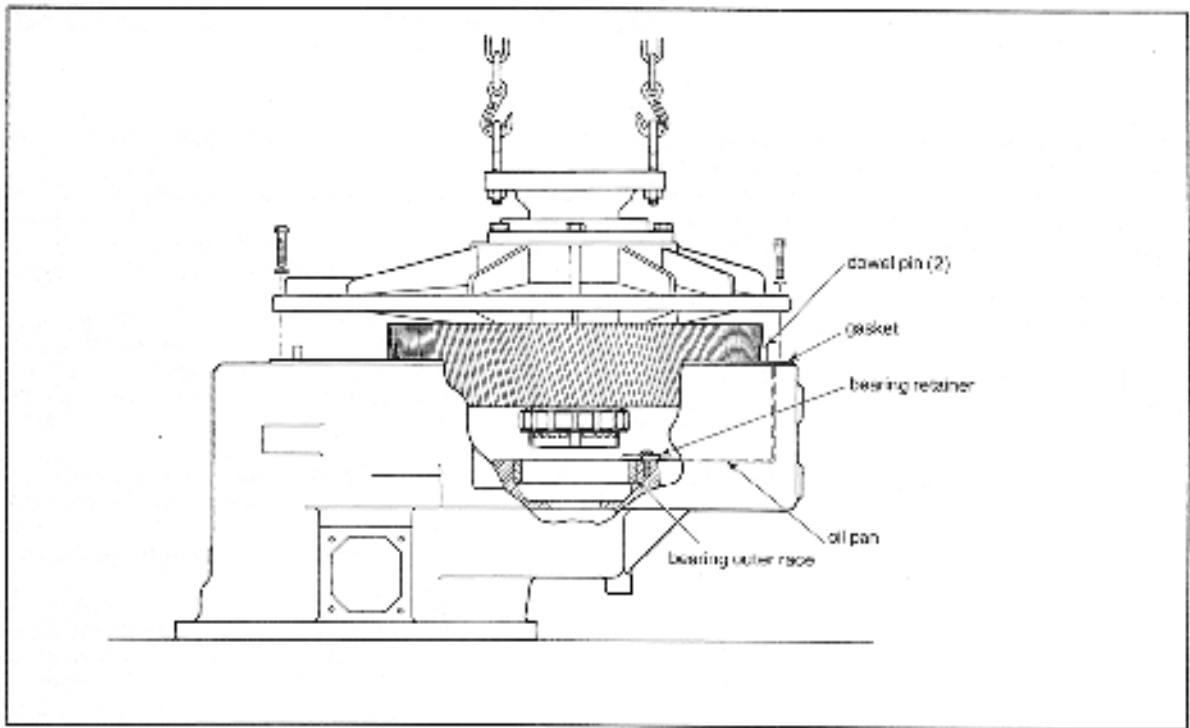

Fig. 38. Installing cover and output gear assembly into housing.
9. Install outer race of output shaft bearing in lower bore of housing. Install oil pan and bearing retainer (see fig 38).
12. Using a hoist, carefully lower the cover and output gear assembly into place. A slow twisting of the output flange can aid in proper location of bearing rollers into bearing race (in housing). See fig. 38 secure cover into place with cap screws and lock washers (tighten torque 65 lbs. Ft).